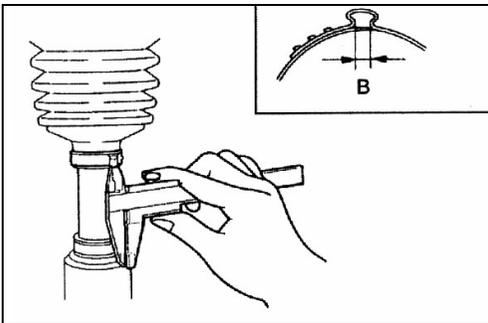

Fig.12-36
- (1) **Secure the drive shaft in an upright position and clamp the part of the R.J. boot band to be crimped securely in the jaws of the special tool.**
- (2) **Crimp the R.J. boot band until the special tool touches the stopper.**
⑧ Check that the crimping amount (B) of the R.J. boot band is at the standard value.(see Fig.12-36)。